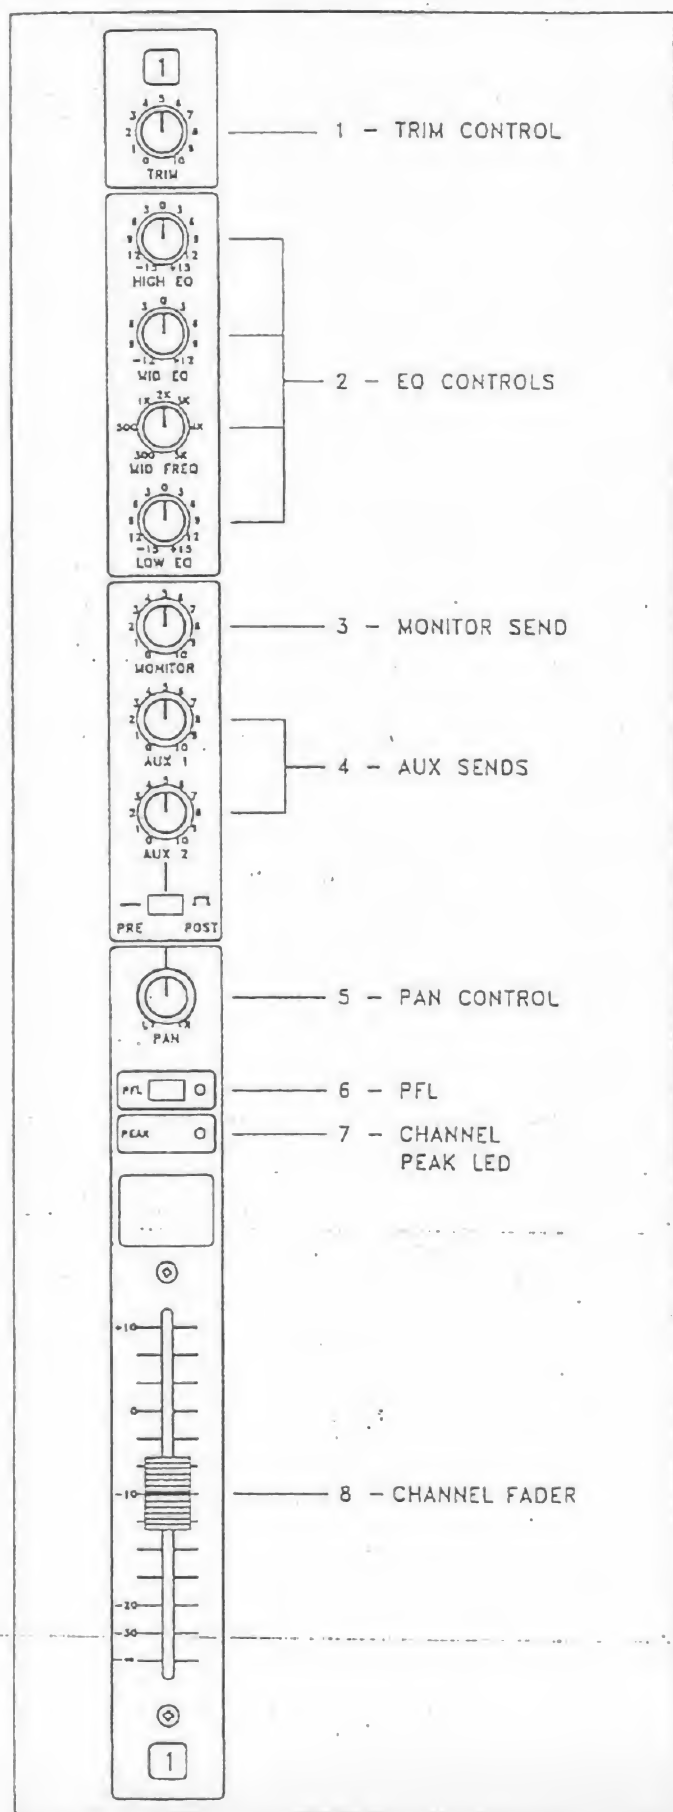
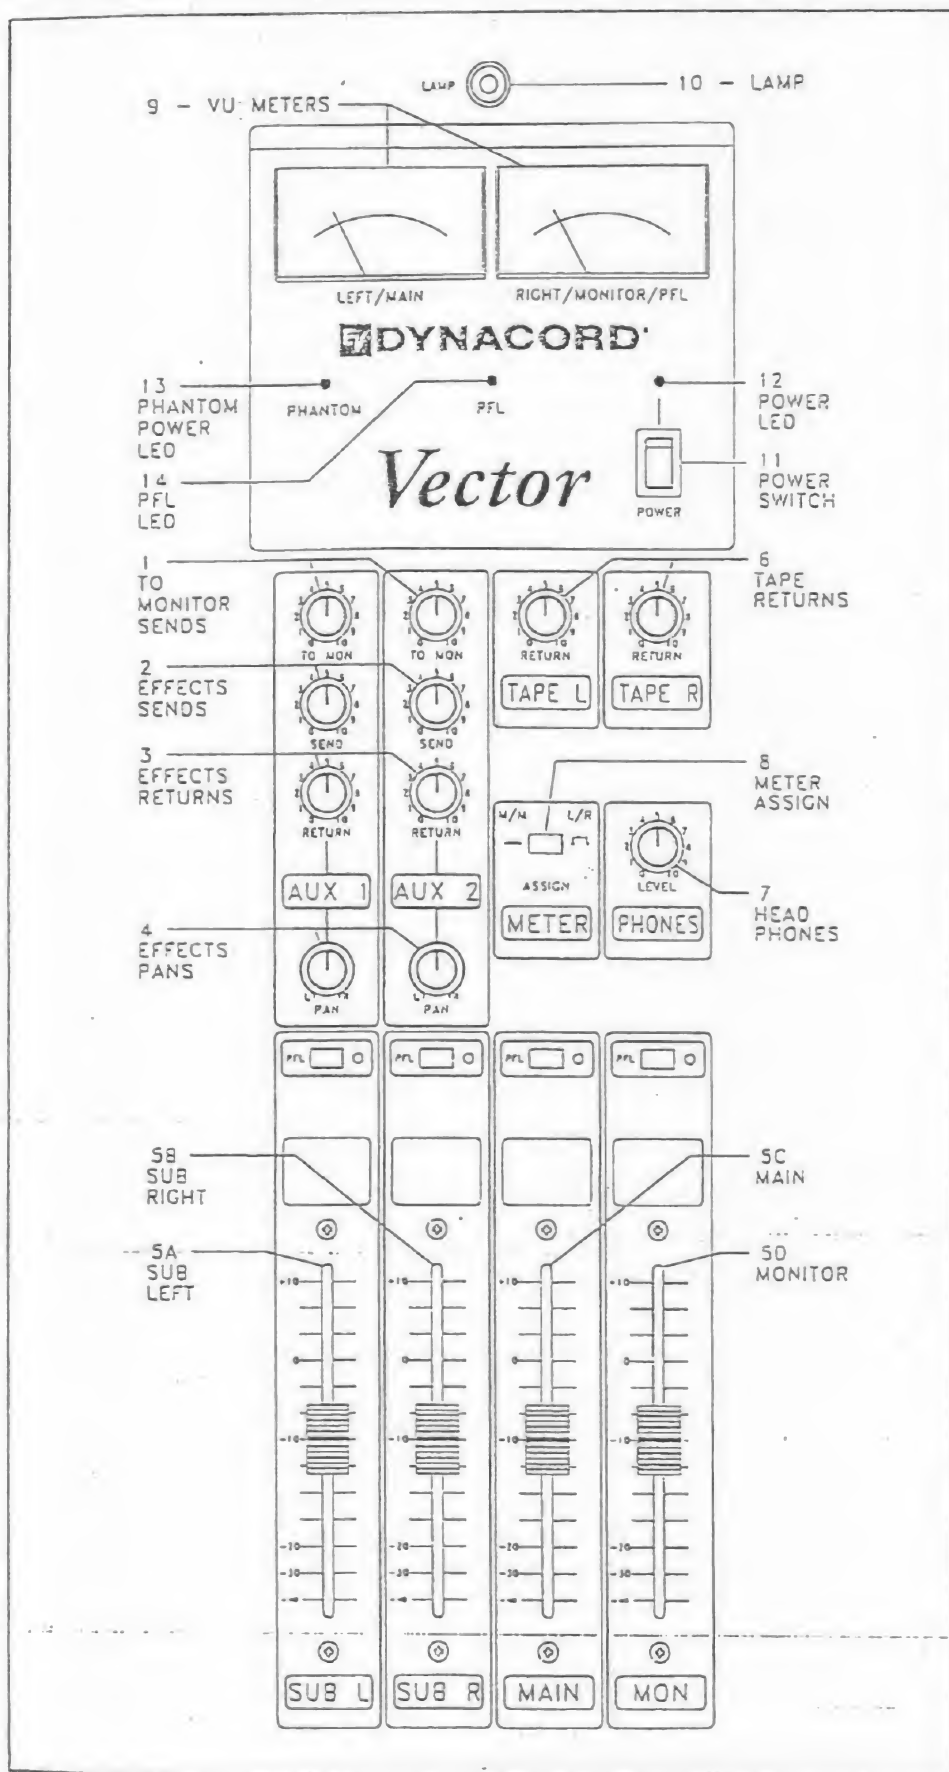

Figure 4: Input Channel Controls
Figure 5: Output Section Controls
(Refer to Figure 4)
input (1/4-inch phone jack). The line input will accept signals from an instrument, high-impedance microphone, tape/CD player, keyboard or electronic drums or almost any other audio source. Always make sure that the channel fader (see Figure 4) and/or master faders (see Figure 5) are down before plugging or unplugging input sources.
3.2 Output Section Controls (Refer to Figure 5.)